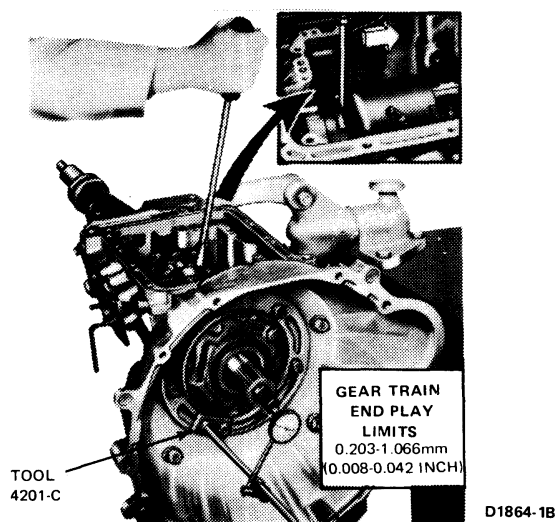

FIG. 16 Checking End Play
- Remove one of the converter housing-to-case attaching bolts and mount the dial indicator as shown in Fig. 16.
- With the dial indicator contacting the end of the input shaft, set the indicator at zero (Fig. 16).
- Insert a screwdriver behind the input shell (Fig. 16). Move the input shell and the front part of the gear train forward.